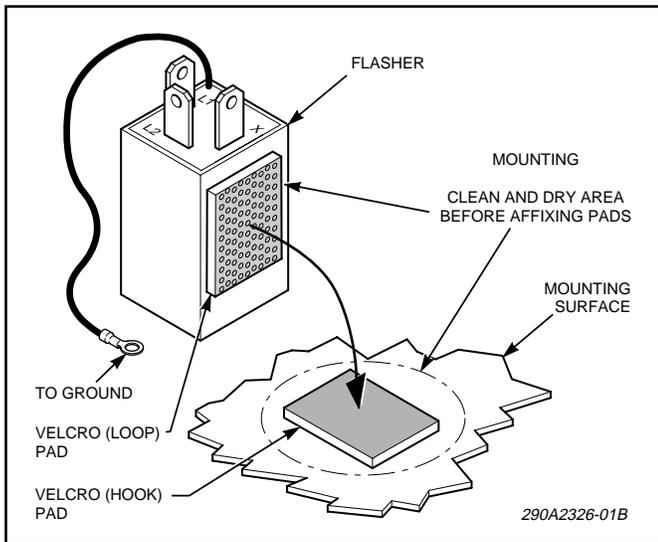

Figure 1.
- a. Remove the backing from the velcro loop pad and affix the pad to the flasher as shown in figure 1. Next, remove the backing from the velcro hook pad and affix the pad at the desired location as shown in figure 1.